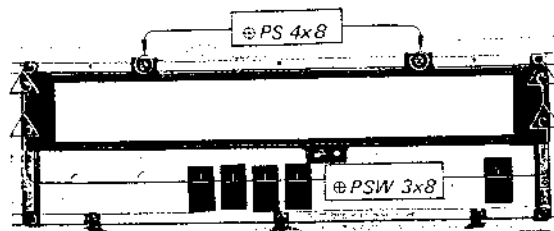

Fig. 2-13. Dial glass replacement
2. Remove the six screws securing the front glass holder to the dial glass escutcheon as shown in Fig. 2-13. This frees the dial glass.